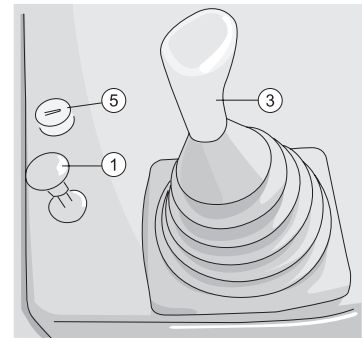

Figure 2-70
Push the blade control lever (3) and ripper control lever (4) to the Lowering position, to lower the blade and ripper to the ground. And then press the blade control lever's lock button (1) and ripper control lever's lock button (2). (Figure 2-70, 2-71)